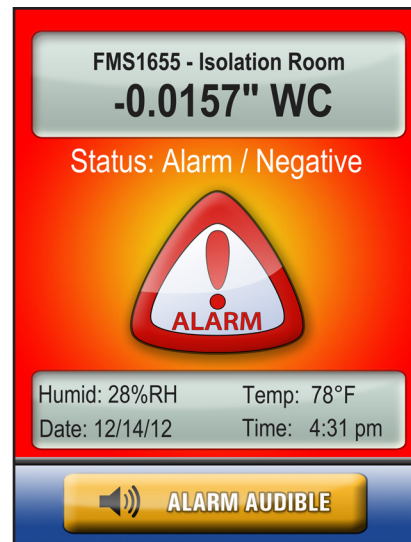

Figure 62. Alarm status is indicated by a red background on the main display.
- *Alarm status* indicates that the monitored input has exceeded the alarm setpoints and is indicated by a red background as shown in Figure 62.